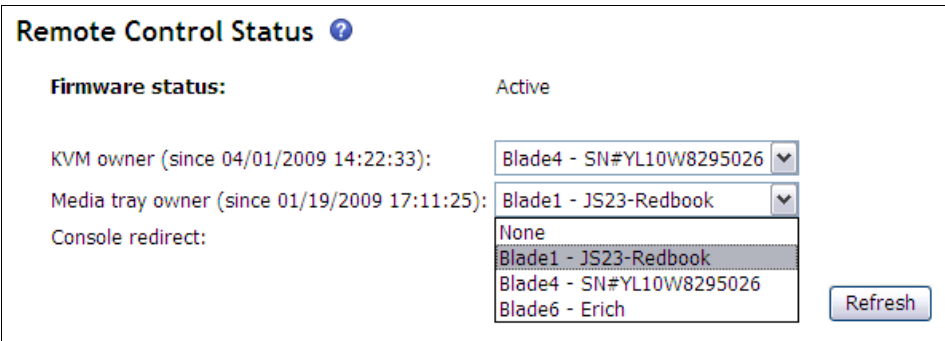

Figure 8-1 Remote Control window - assign Media Tray
2. In the right side window, look for Media Tray Owner and click the drop-down arrow to display the various blade bays. Select your blade bay location with the mouse as shown in Figure 8-1.